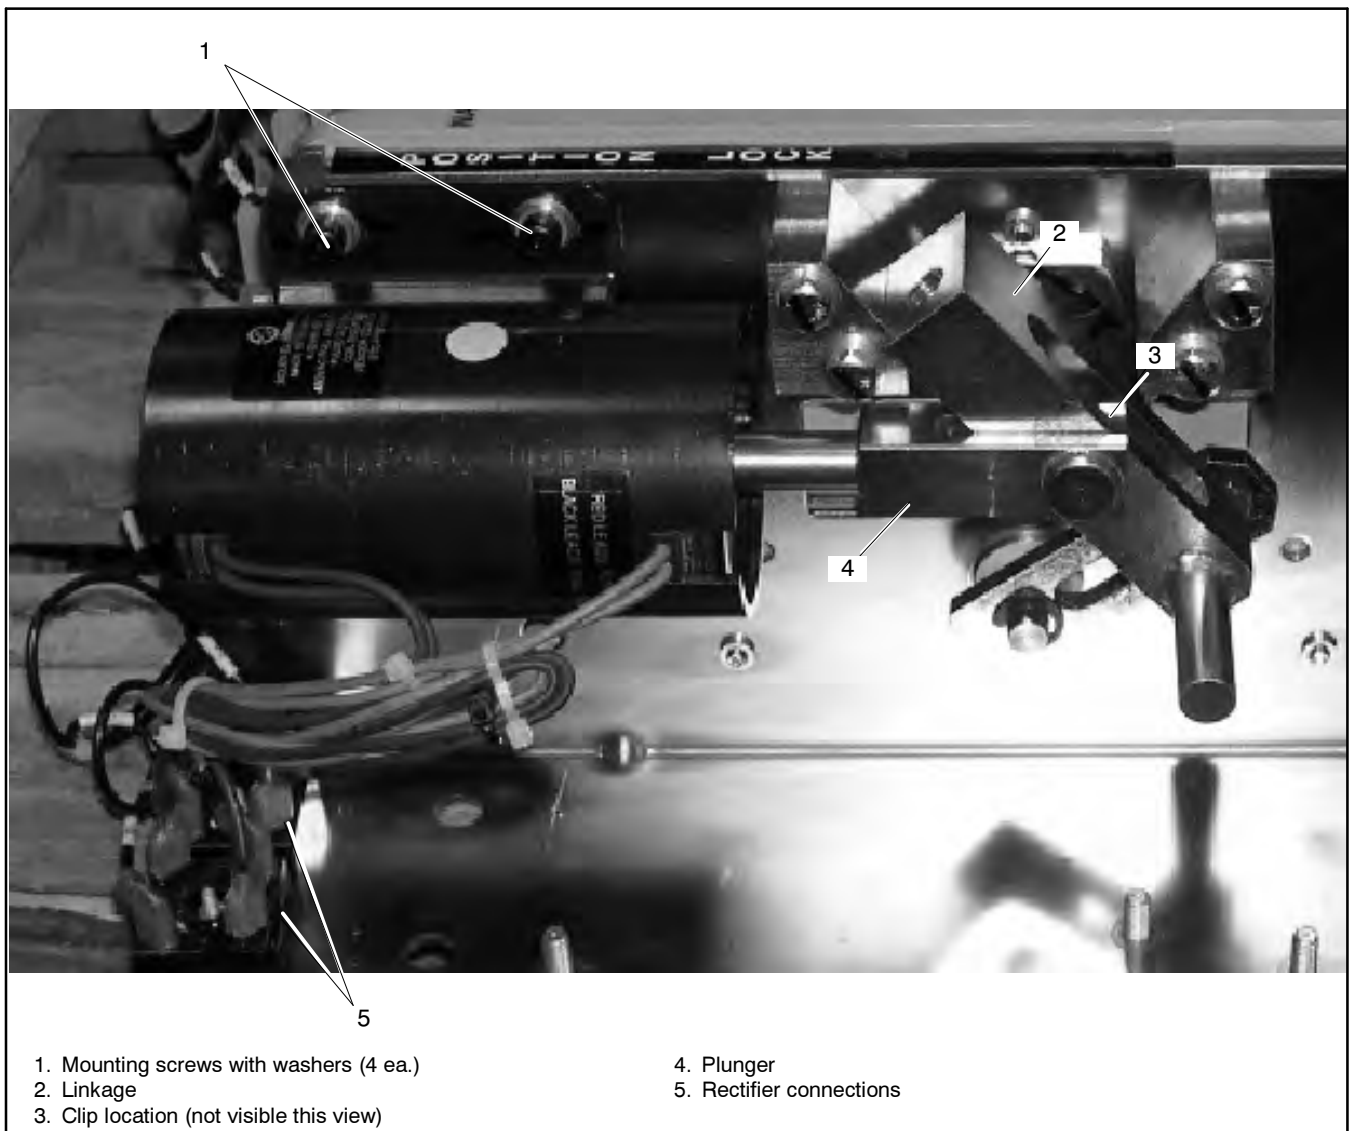

Figure 6-22 Solenoid Assembly (shown on the bench)
10. Note the rectifier connections and disconnect the AC leads. See Figure 6-22.
14. Hold the solenoid coil firmly and remove the four screws and washers. See Figure 6-22.
18. Place the new solenoid assembly into position, aligning the linkage pins with the mechanism slots. See Figure 6-22.